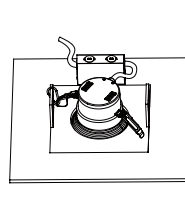

Fig. 6
- Step 6: Once lamp is inside the housing, release the housing clips and continue pushing lamp into housing until securely fixed and flush with ceiling (Fig. 6).